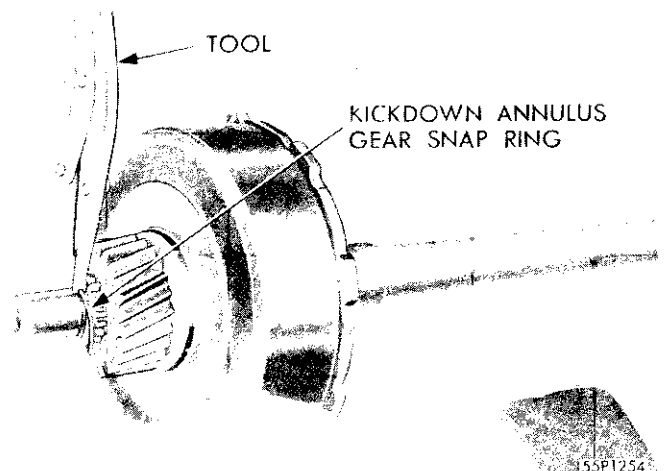

Fig. 25—Removing or Installing Kickdown Annulus Gear Snap Ring
(4) Remove the kickdown annulus gear after removing snap ring (Fig. 25) from input shaft. Inspect gear for worn, cracked, and broken teeth. Remove